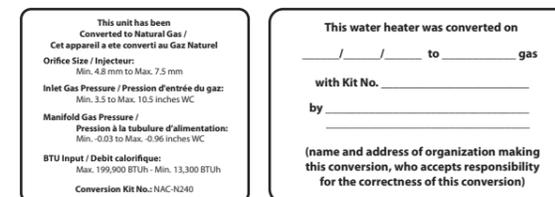

Figure 11. Proper Placement of Gas Conversion Labels
13. Once the CO₂ or offset values have been confirmed, apply the included conversion stickers to show that the appliance has been converted to natural gas. Place these labels adjacent to the rating plate as shown in Figure 11.